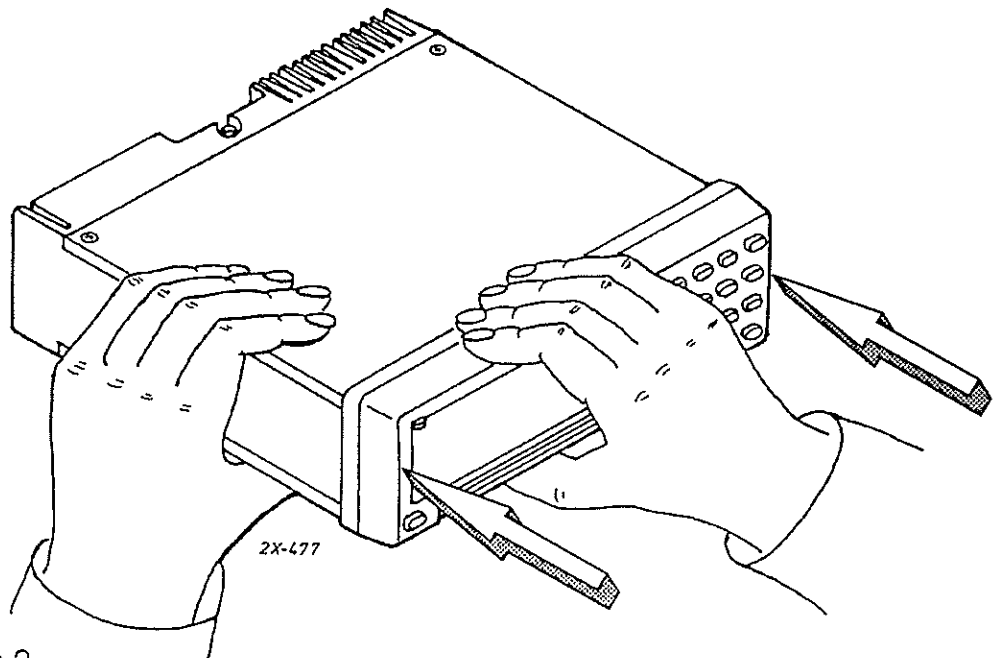

Figure 2.
2. Gently push the control unit onto the radio (Fig. 2)